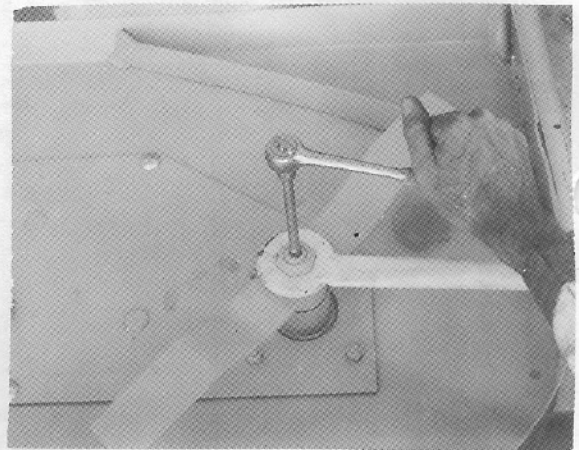
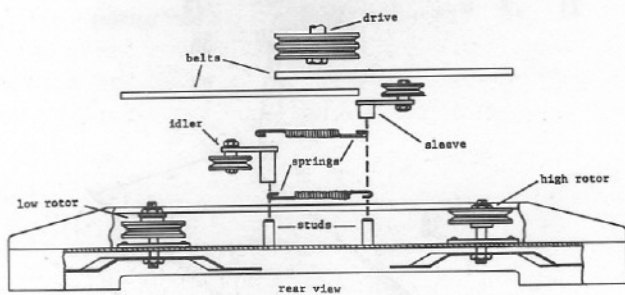

fig 9
fig 2
3. **BLADE REMOVAL**: **STOP** the engine, Put the PTO in the **OUT** position. Put the operating levers in **NEUTRAL**. **BE SURE** the blades have stopped. Remove the mower from the tractor. Turn the mower upside down. Hold the rotor shaft with a 3/8" socket drive and remove the nut with a 15367E1 Gravelly Wrench or equivalent, fig 9. Do not use the top spindle nut to hold the spindle from turning.
3. Mount the idlers on the studs as in fig 2. Note the different sleeve lengths of the idlers. The short sleeve goes next to the high rotor and the tall sleeve goes next to the low rotor. Set the idlers on the studs with the extended sleeves down. Work from the rear of the mower.
5. Hook the springs to the idler assembly from underneath as in figs 2 & 4, solid lines.
7. **BELT REMOVAL:** Remove the belt covers. Unhook one end of each spring; use a spring puller or clamp-lock pliers. Remove the drive. Remove the belts. See figs 2, 3, & 4. fig 1, Item 14 and 15. Hold the rotor shaft with a 3/8" socket drive and torque the nut to 100 ft. lbs. Similar tightness can be reached with a Gravelly 11367E1 Wrench or any 16" length handle wrench when used by an average man, fig 9.